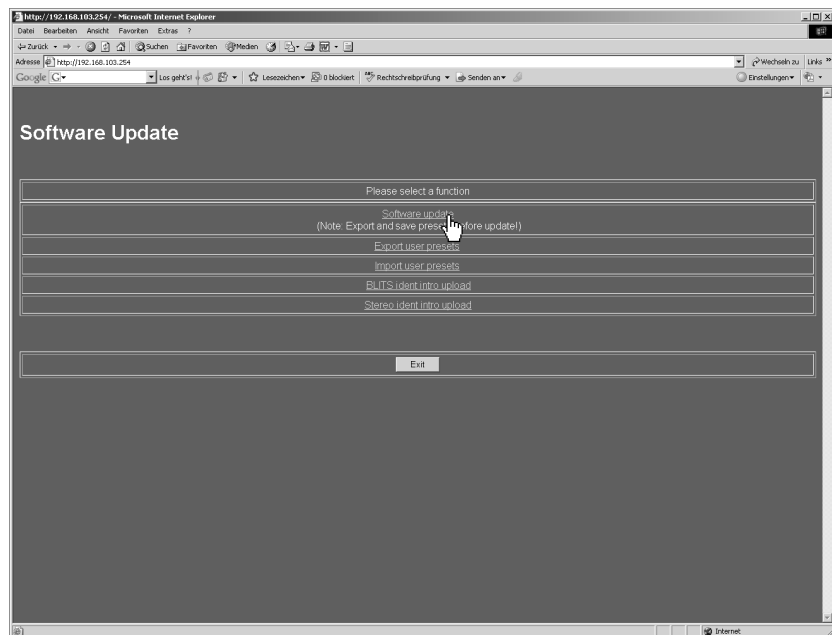

Fig. 8-2: Software Update Program menu in web browser
2. The SurroundMonitor should respond with a screen like the one shown in Fig. 8-2. Choose **Software update**.